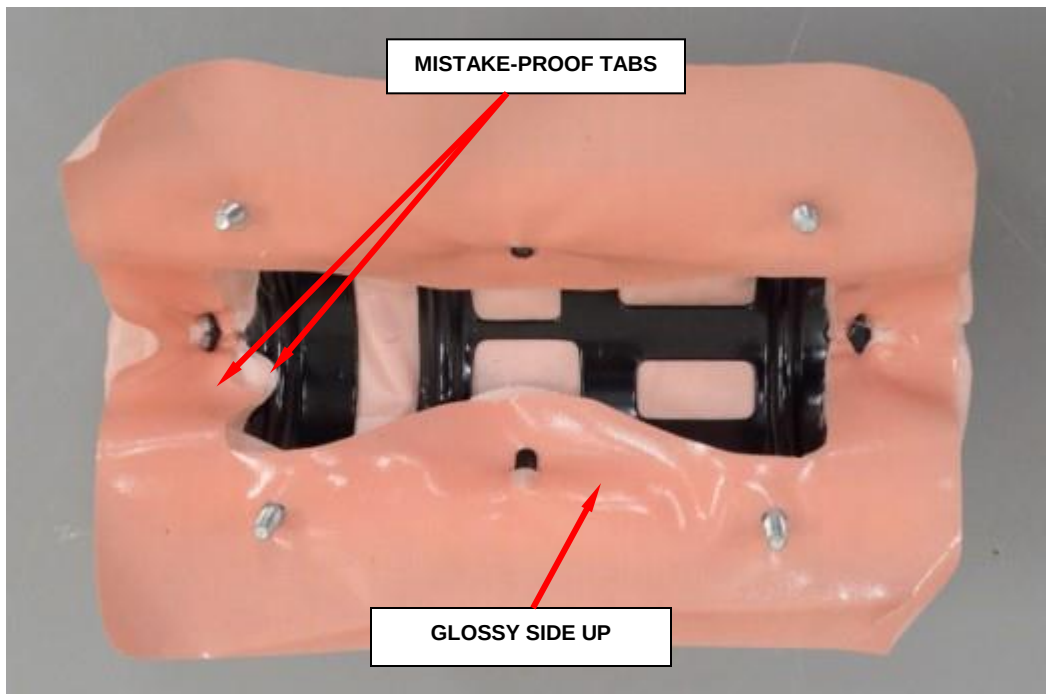

Figure 119 – Fabric Gasket to Cushion (Glossy Side Up)
- i. Place the fabric gasket, glossy side up, onto cushion. Mistake-proof tab should be aligned to the tab on the cushion (Figure 119).